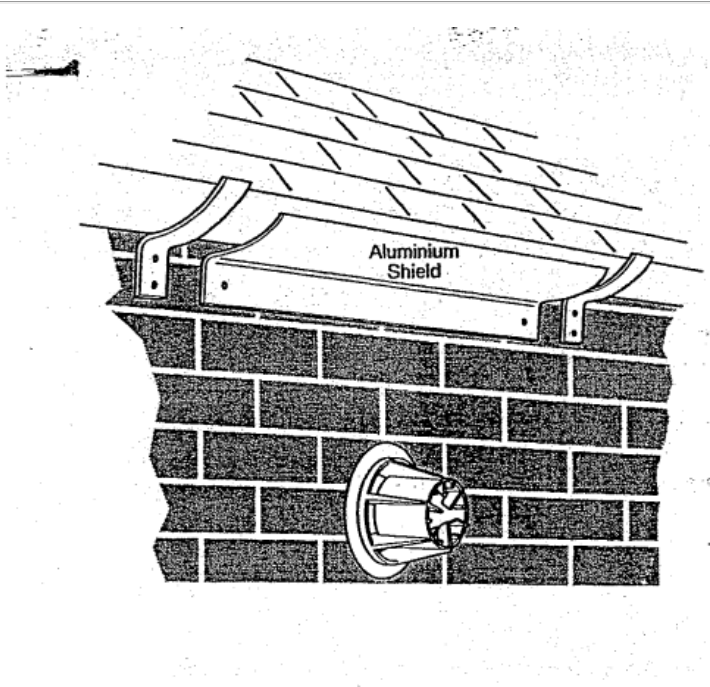

Fig. 9
- 3 If the terminal is fitted within 1 metre (39 in) of a plastic gutter, within 500mm (19 1/2 in) of a painted eave or a painted gutter, an aluminium shield of at least 1 metre (39 in) long should be fitted to the underside of the gutter or painted surface. An air space of 5mm (3/16 in) should be left between shield and gutter (Fig. 9).